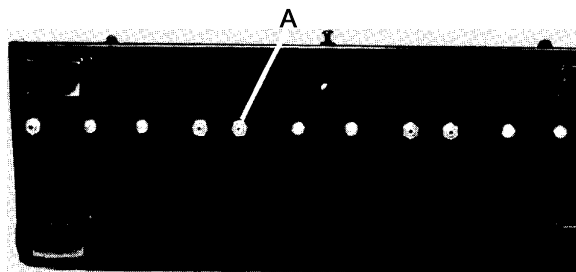

Fig. 35
- 2) Loosen lock nut, Item A, Fig. 35 under the malfunctioning switch.
- 5) While holding the "stop" in position with an allen wrench, tighten the lock nut, Item A, Fig. 35 securely.